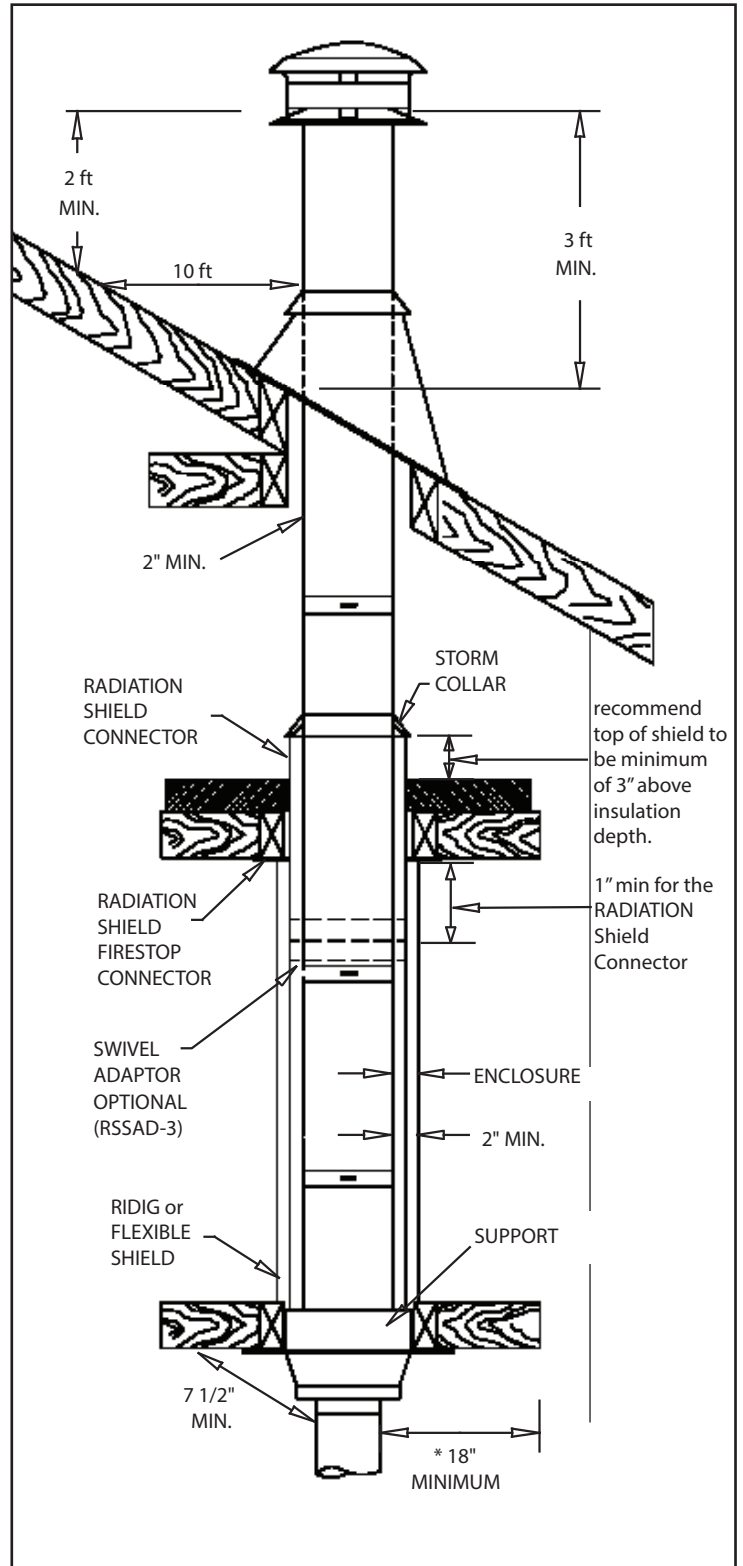

Figure 9 - CANADA - PREMIUM Radiation Shields Installation layout IN A COMBUSTIBLE ENCLOSURE.
- 2.A. When venting Wood or Coal Burning appliances installation for interior enclosed installation, Premium Radiation Shields accessories (Telescopic (TRLRS-3) or Flexible (FLRS-3 around the Chimney, and a Radiation Connector (RSC-3) at the ceiling level) are required around the chimney in Canada. Refer to specific Canadian installation notes for proper installation. (See **Figure 9, 15, 26**).